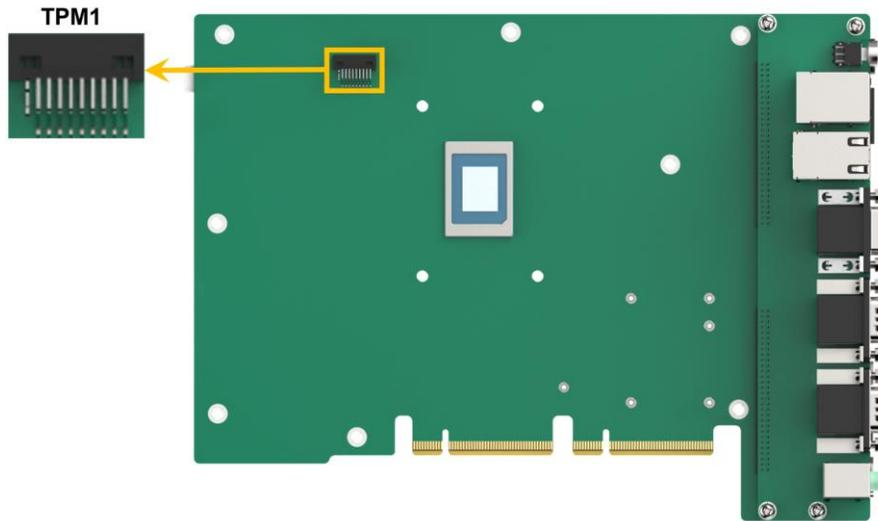

Figure 4-24: SPI TPM Connectors Location
- CN Location:** See **Figure 4-24**